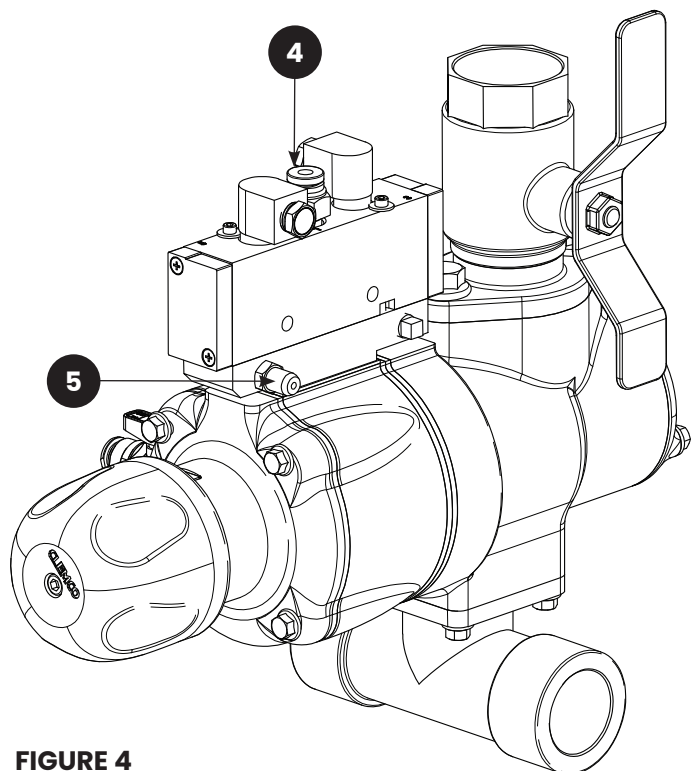

FIGURE 4
2.3 Connect Piping to the Metering Valve – Figure 4
2.4.1 | GritWizard Removal Notes: Figure 4